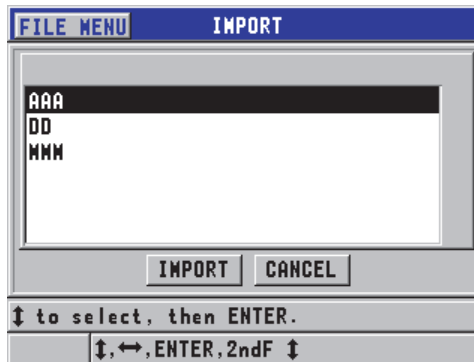

Figure 11-3 Example of the IMPORT screen
5. In the **IMPORT** screen (see Figure 11-3 on page 191):